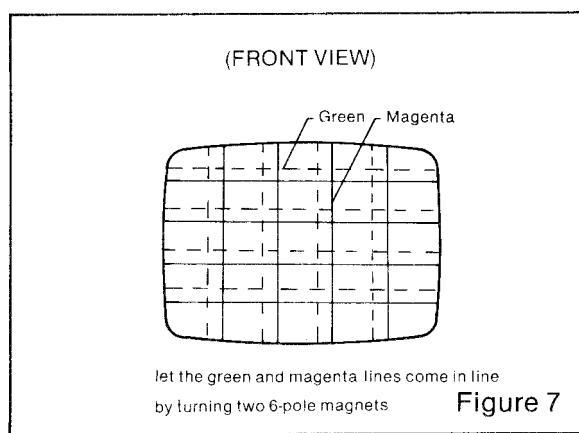

Figure 7
- 2.6 Rotate the 6-pole (middle) pair of magnets as a unit to minimize separation of the magenta and green lines (Fig 7). Vary angle between the two tabs and further rotate as a unit to finalize.